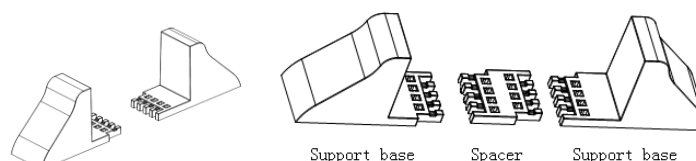

Figure 3-1 Support bases and spacers assembly
- (1) Take out the support bases and spacers and then assemble the spacer and the support bases, shown as Figure 3-1.